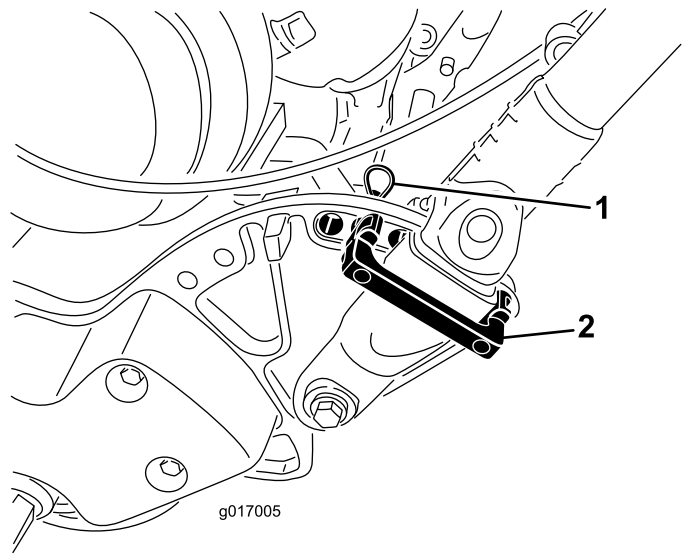

Figure 27
1. Remove the hairpin cotters from the handle retainers on each side of the machine (Figure 27).
2. While supporting the handle, remove the hairpin cotters from each side and pivot the handle to the desired operating position (Figure 27).